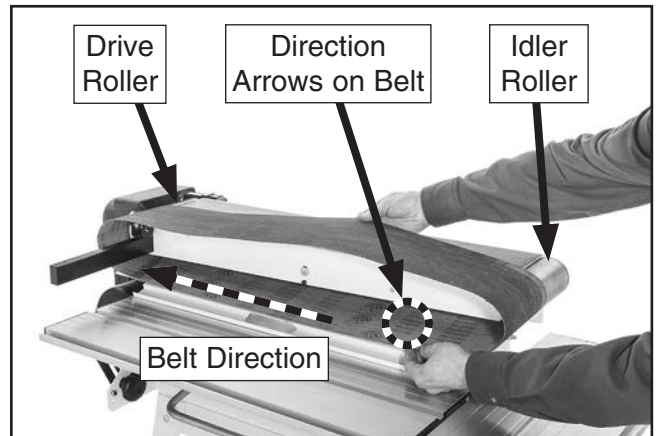

Figure 28. Installing new belt.
7. Make sure arrows on inside of new belt point in counterclockwise direction, and install new belt over both rollers, as shown in **Figure 28**.